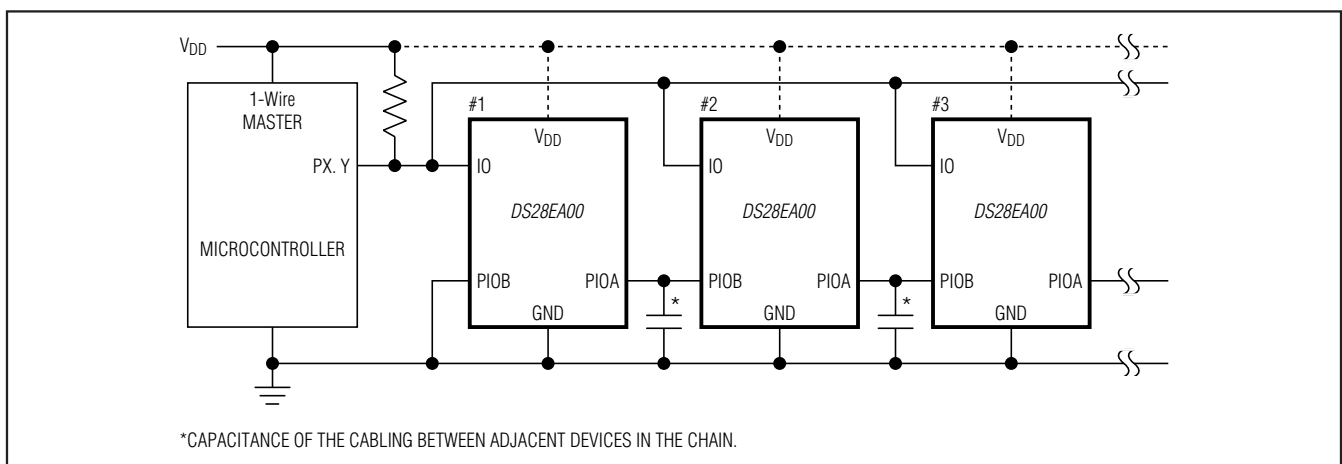

Figure 15. DS28EA00 Wired for Sequence Discovery ("Chain Function")
**Precondition:** The PIOB pin ( $\overline{EN}$ ) of the first device in the chain is at logic 0. The PIOA pin ( $\overline{DONE}$ ) of the first device connects to the PIOB of the second device in the chain, etc., as shown in Figure 15. The 1-Wire master detects the physical sequence of the devices in the chain by performing the following procedure.